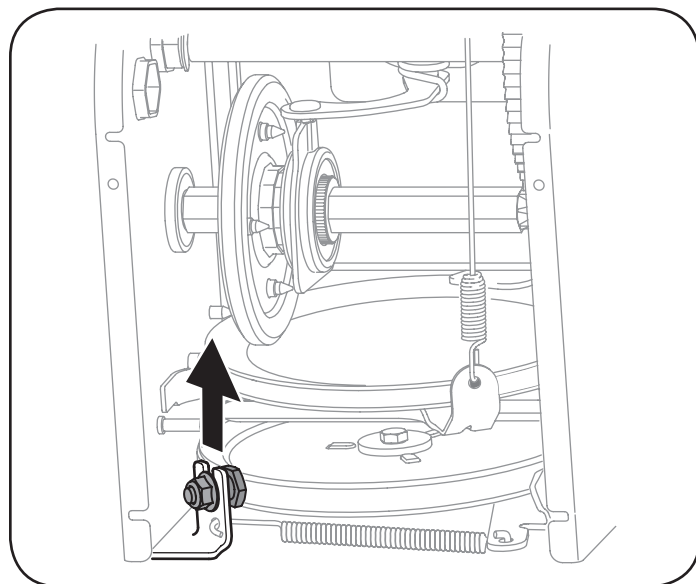

Figure 28
7. Loosen and remove the shoulder screw which acts as a belt keeper. Refer to Figure 28.